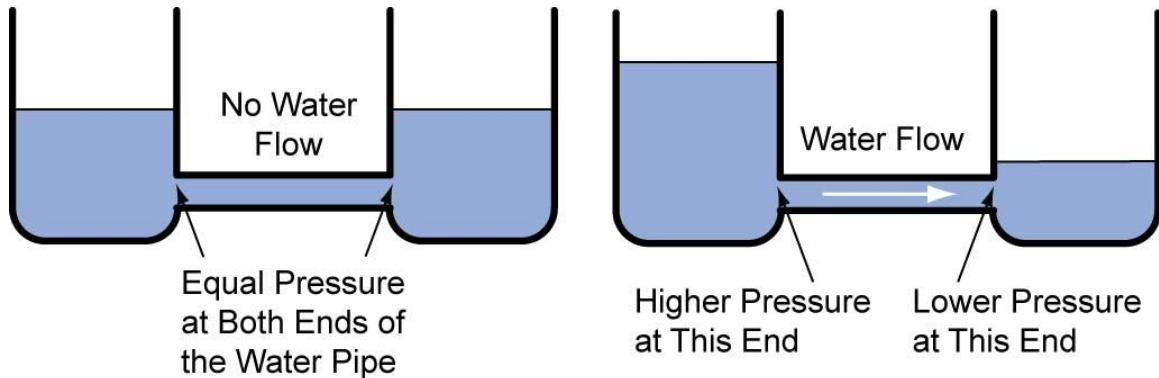

Figure 12: Difference in Pressure Creates Water Flow in a Pipe
- If we compare electric current to water flowing through a pipe, then voltage would be analogous to water pressure. If a pipe has the same water pressure at both ends, no water will flow (Figure 12). For water to flow through a pipe, it is necessary to have a difference in water pressure between the two ends of the pipe. With higher water pressure, more water is forced through a pipe in a given time.